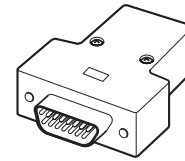

Fig. 1-6
- MTBR RTN (Part Number : YWA0EA1203AN) for the Meter Bridge Connector as shown in fig. 1-6.